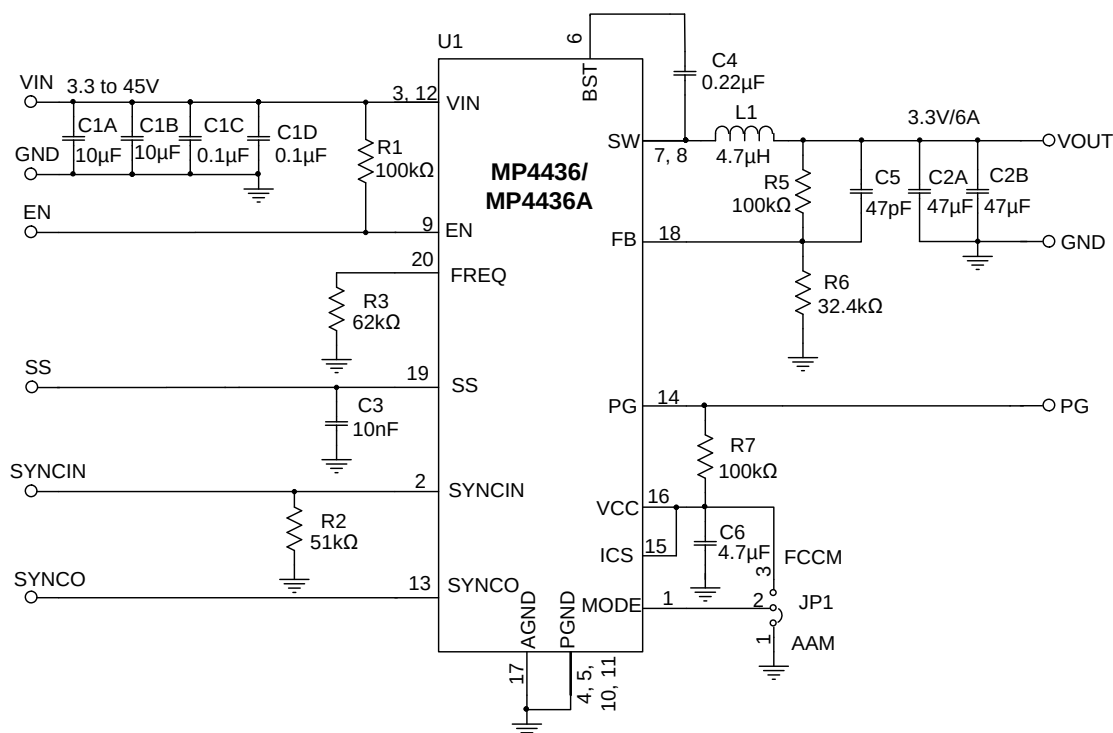

Figure 12: Single-Phase, $V_{OUT} = 3.3V$, $f_{sw} = 470kHz$
9) The recommended PCB layout is based on Figure 12.